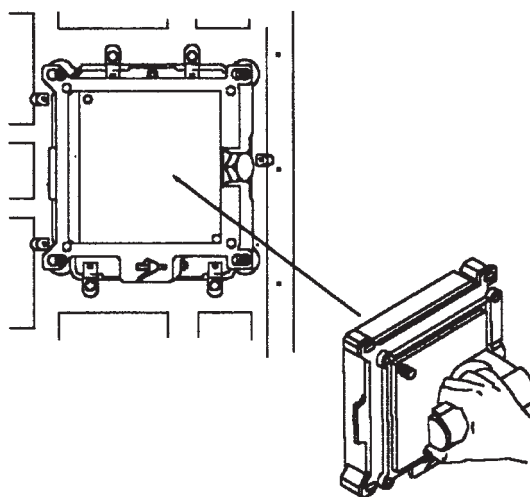

Figure 4-94. TCM Installation
4. Hold the TCM by the handle. Position the cam at the bottom, and carefully insert it into the board as shown in Figure 4-94.